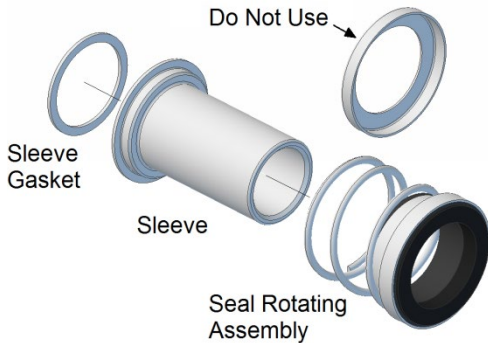

Fig. 3
2. Mechanical seal rotating assembly should be assembled as detailed below in Fig. 3. **Note:** Do not use the stamped sheet metal spring holder supplied by the mechanical seal manufacturer; the spring holder is incorporated into the sleeve design. The rotating assembly should be installed on sleeve #126 by lightly lubricating the sleeve and pushing the seal head over the shaft sleeve.